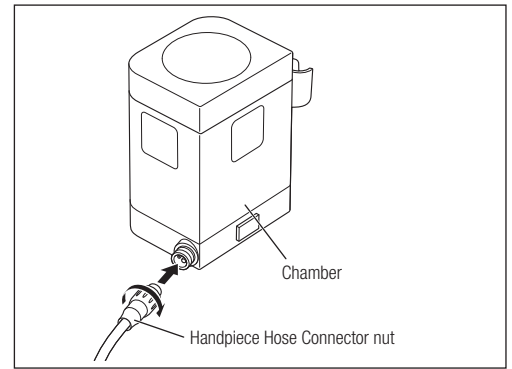

Fig. 7
- 2) Insert the Handpiece Hose Connector so that it fits correctly into the hole on the Handpiece Hose Connector Socket and fasten the Connector nut (Fig. 7).